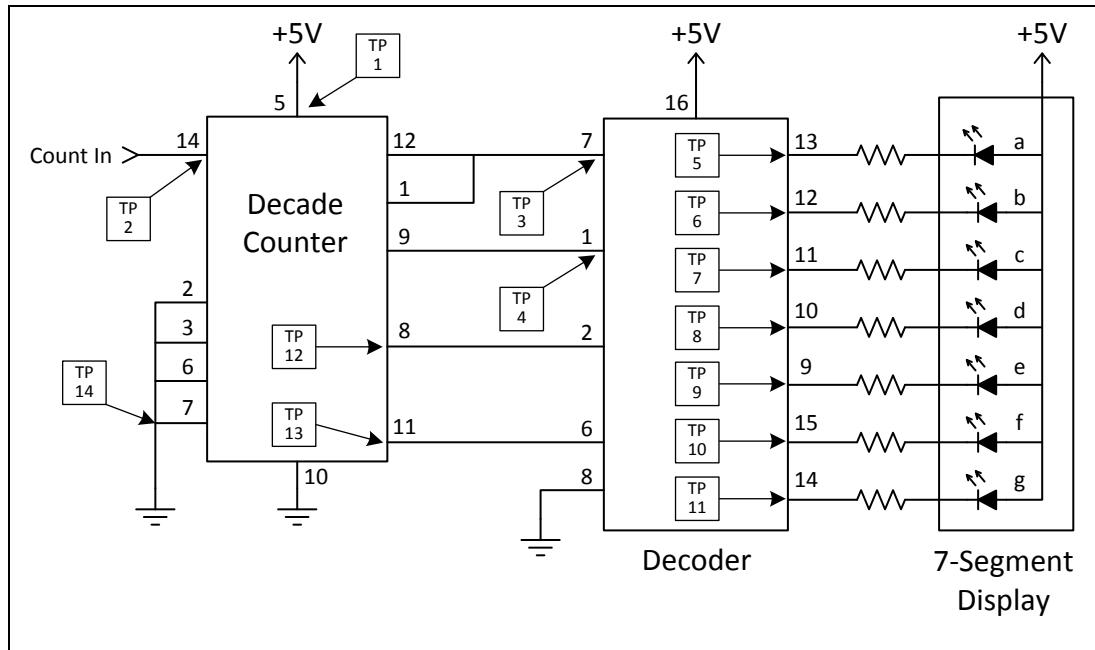

Figure 50
1. Connect the circuit shown in the diagram Figure 50.